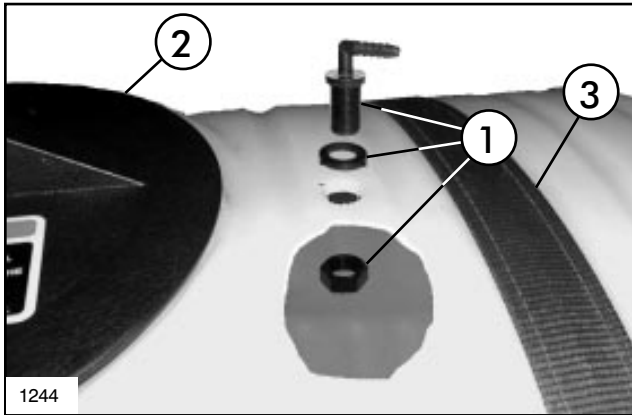

FIG. 8
14. Drill a 3/4" hole through top of tank between Tank Lid and front Tank Strap. Assemble the Bleed Fitting in hole. See FIG. 8.